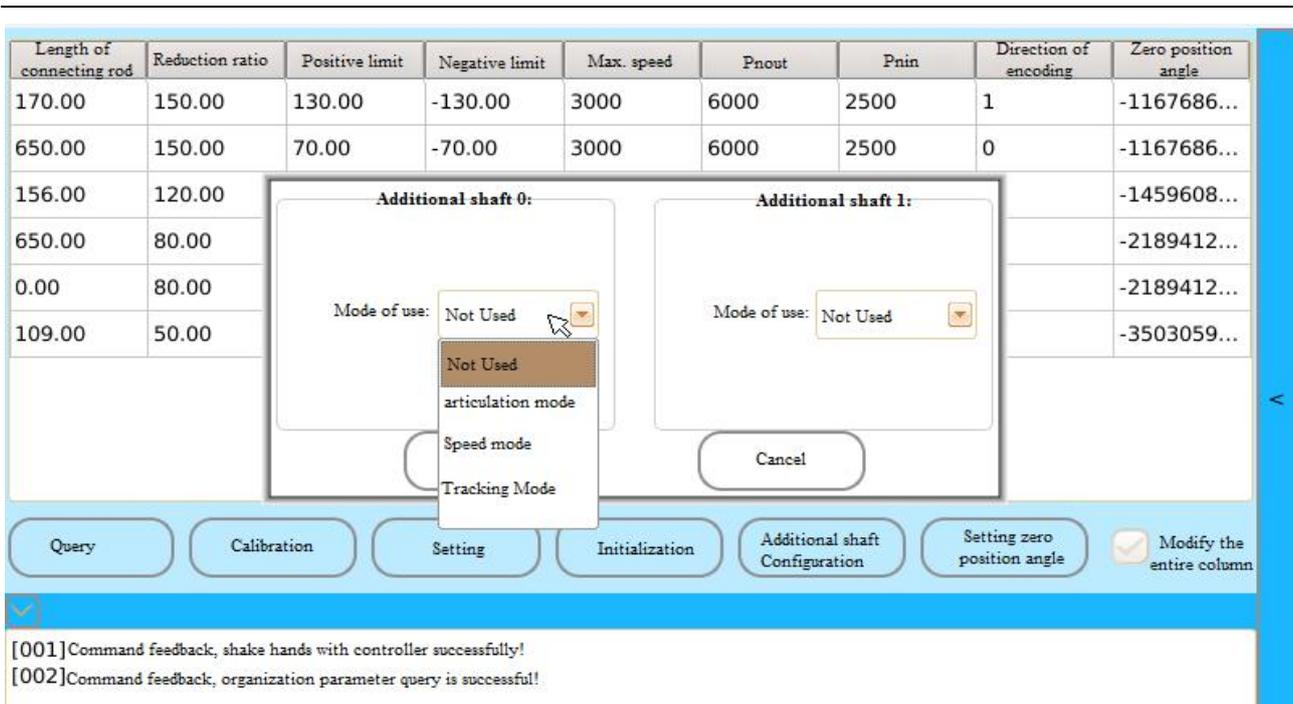

Fig. 3.6 Additional Shaft Use Mode
(1) “Additional shaft” use mode: the control system provides 3 modes for use of the additional shaft, as shown in Fig. 3.6 of “Additional shaft use mode”, respectively, a. articulation mode; b. speed mode; C. tracking mode.
(2) “Additional shaft” application: After completing setting of the additional shaft “Driver configuration” and the “additional shaft using mode”, click the “Setting”_“Query” keys in “Additional shaft using mode” to complete setting of the additional shaft. As shown in Fig. 3.6.